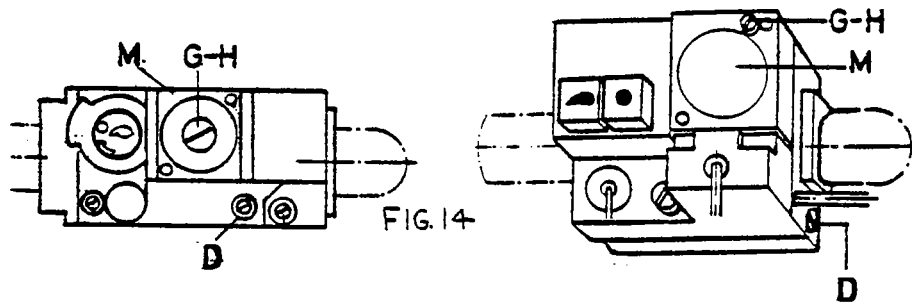
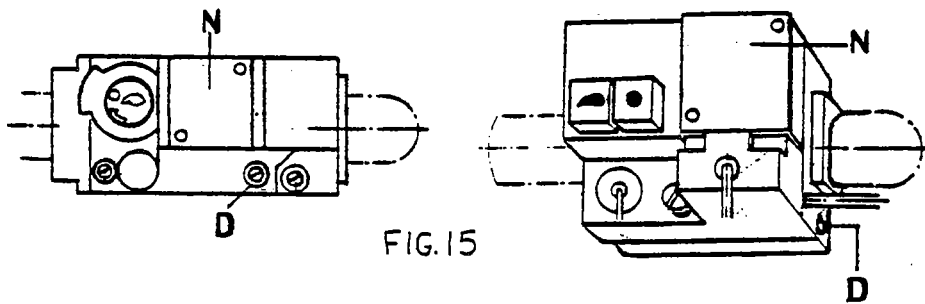

FIG. 14
FIG. 15
7. When changing over to liquid gas (propane/butane) replace the gas pressure controller fitting M (fig. 14) by a blank flange N (fig. 15).
8. Connect a U-tube pressure gauge to the pressure pick-up nipple D (fig. 14 or 15).
11. Remove the screw plug G (fig. 14), then set the gas pressure controller to the required burner pressure by means of the adjusting screw H (does not apply for liquid gas).